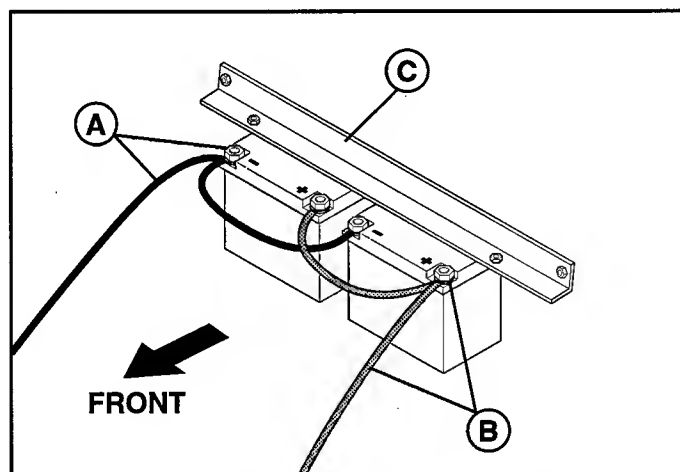

Figure 22. Battery Connections
2. Remove the battery hold-down bar (C, Figure 22).
1. Disconnect the cables from the battery, negative cable first (B, Figure 22).
2. Remove the battery hold-down bar (C, Figure 22), then remove the batteries.